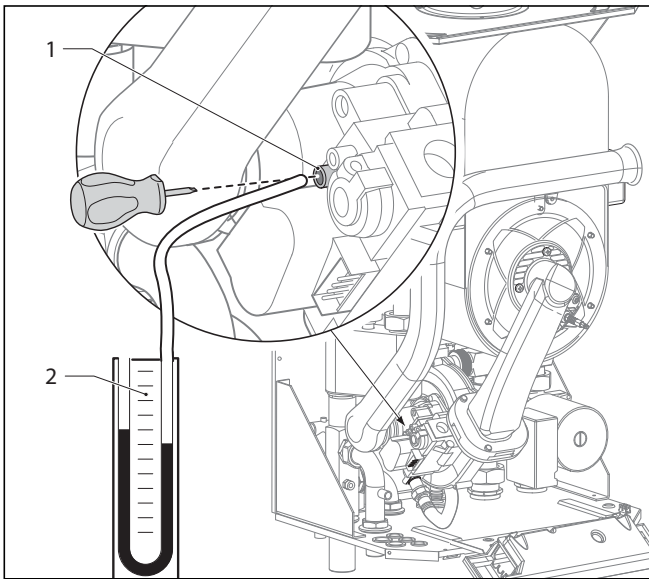

Fig. 5.3 Measuring the gas inlet working pressure
- Loosen the sealing screw marked "in" (1) on the gas valve assembly (Fig. 5.3).
- Connect a digital or a U gauge (2).
- Remove the pressure gauge and screw the seal plug (1, fig. 5.3) back on with the auxiliary tool supplied.
- Remove the pressure gauge and replace the seal plug (1, fig. 5.3) back on with the auxiliary tool supplied.